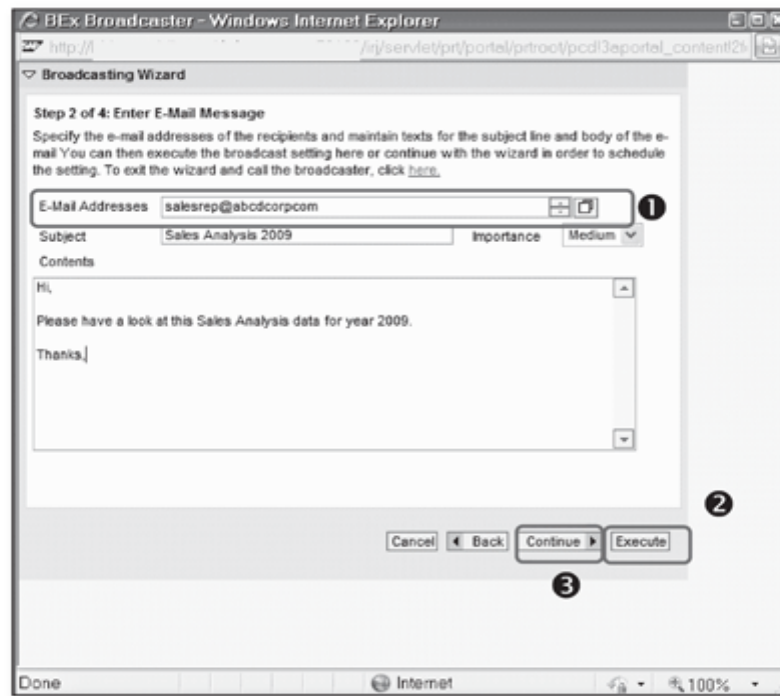

Figure 10.63 BEx Broadcaster: Maintain Message Settings
3. On the next screen, maintain the details of the broadcasting settings (Figure 10.63), which depend on the output format selected earlier. Include the email addresses of the intended recipients of this data (❶), and create your own message, which will be sent to the users along with the information.